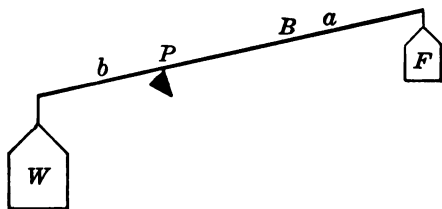

FIGURE 244. — THE LEVER.
277. The Lever. — The lever consists of a rigid bar (B) Figure 244, a weight (W), a force (F), and a pivot (P). W represents the *force overcome*, which is often the weight of an object being lifted; F represents the *force applied*; while P is the *point about which the bar turns*.
In the case of the lever $\frac{a}{b} = \frac{W}{F}$. (Figure 244.) Therefore to find the